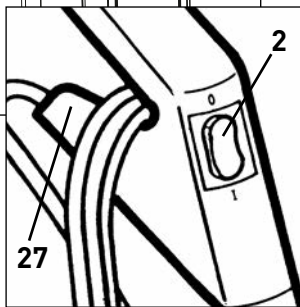

Figure 2
2. Release the power cord plug from the power cord and lift the cord off of the upper cord hook (27 - figure 2).
3. With the switch (2) in the "O" (OFF) position (figure 2), plug the polarized power cord into a 120 volt outlet located near the floor.